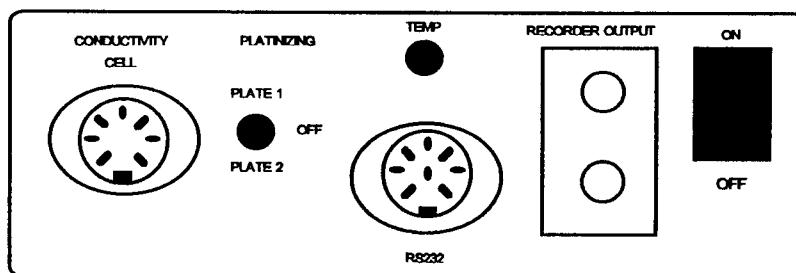

Figure 2. Rear view of CDB-387 Meter
REFER TO FIGURES 2 & 3.
- ① Connect the recorder, via the red and black 4mm recorder sockets on the back panel. (Red - POSITIVE and Black - NEGATIVE) (Figure 2).
- ② Ensure that the recorder is set for the appropriate range, i.e: